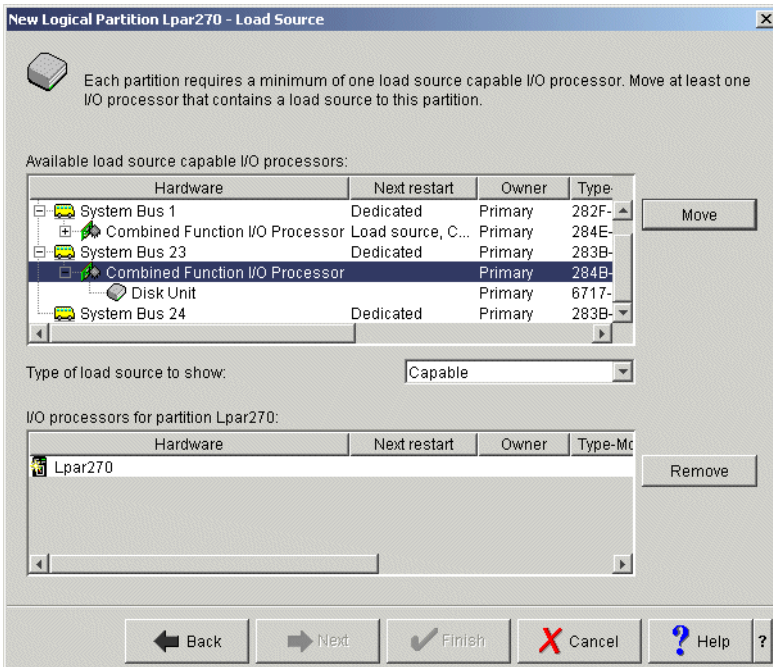

Figure 4-19 New Logical Partition - Load Source window
16. The New Logical Partition - Load Source window appears as shown in Figure 4-19.